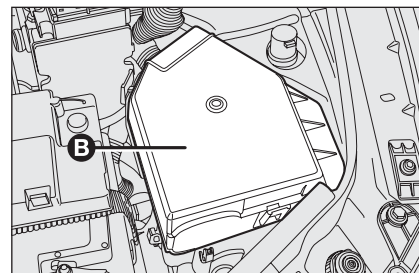

fig. 19
**IMPORTANT** To open the left-hand bulb holder cover (running direction) to replace the bulb, remove first of all the engine compartment fuse box cover **B**-**fig. 19**.